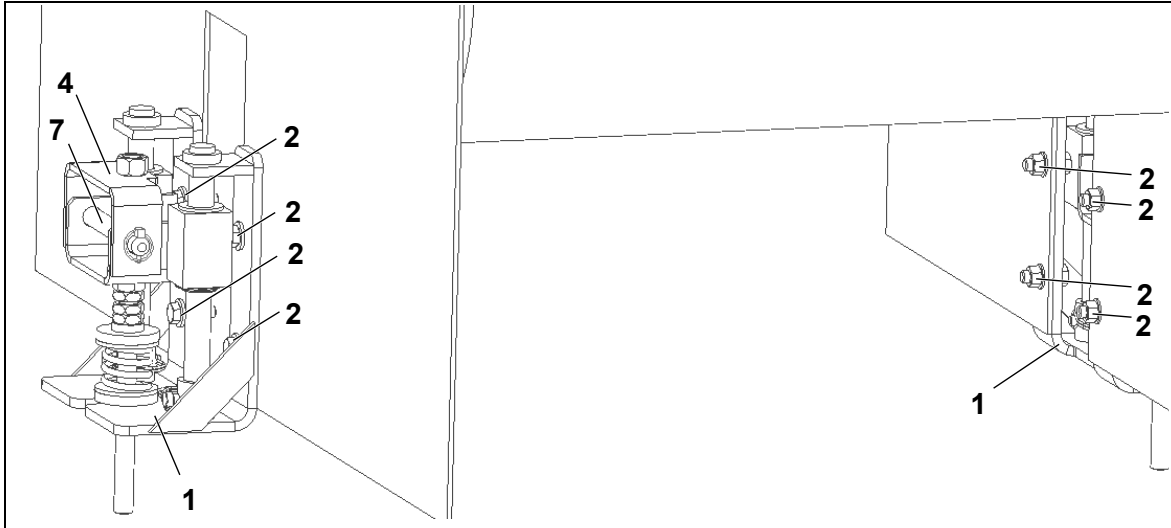

Fig. 13
1. Screw the tensioner (1, Fig. 13) into the installation holes (2, Fig. 13) on both sides of the chute wall.
2. Remove the transport bolt (7, Fig. 13) from the mounting bracket (4, Fig. 13).